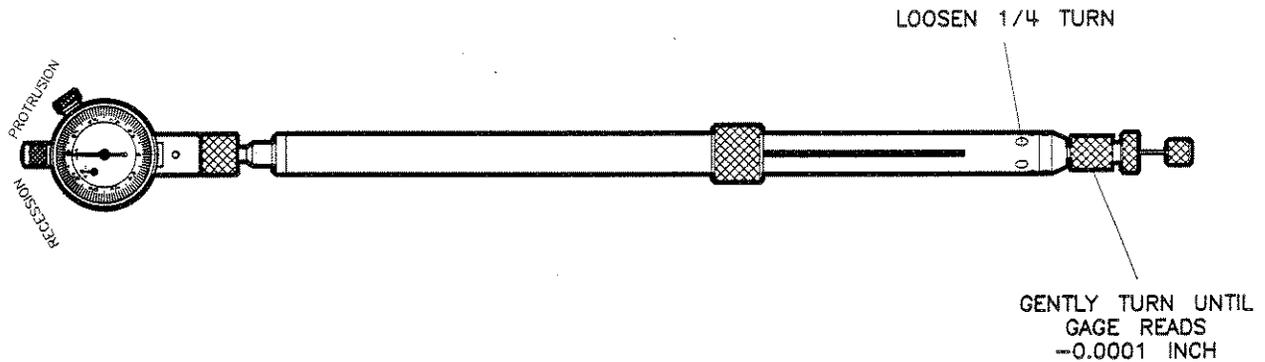

Figure 4-5. Setting the Pin Depth
1. Zero the gage then attach the gage to the sliding load using the above procedures. The back side of the sliding load and the face of the gage should be facing up (Figure 4-5).
Do not loosen any hex screws other than the two largest hex screws pointed out in Figure 4-5. Doing so may render the set back mechanism in the sliding load inoperable.
2. With a 0.050 inch hex key, loosen the 2 largest hex screws 1/4 turn (Figure 4-5).
3. Gently turn the center conductor pin depth adjustment knob (a) on the sliding load until the pointer on the gage reads -0.0001 inch (Figure 4-5).